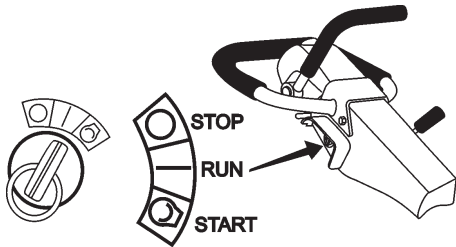

Figure 17. Starter Switch (Option)
3. Insert the ignition key into the ignition switch and turn it to the **RUN** position (Figure 17). The buzzer should sound at this time.